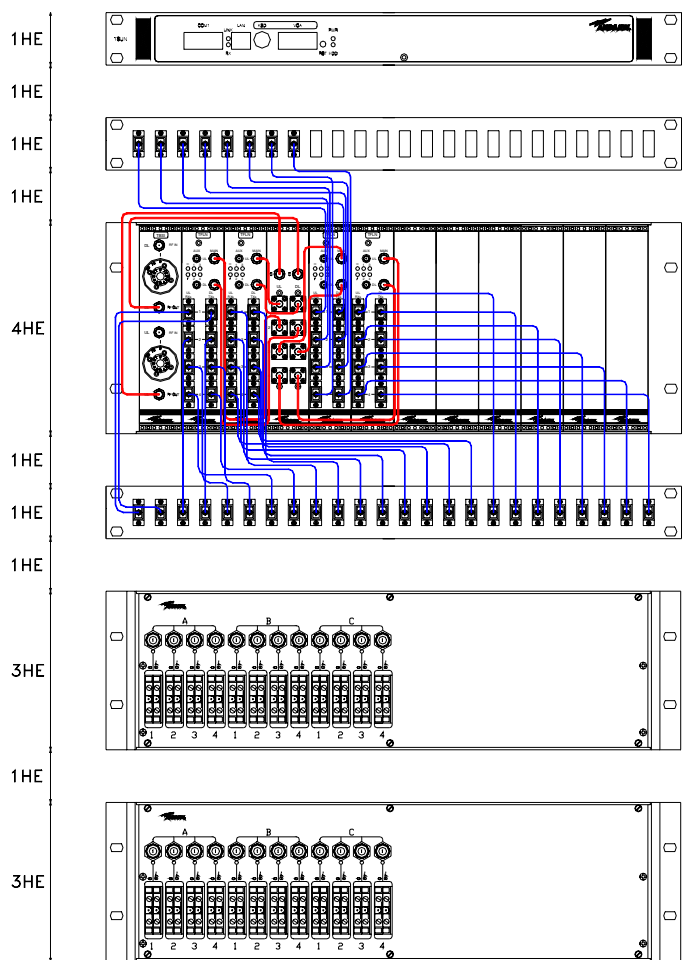
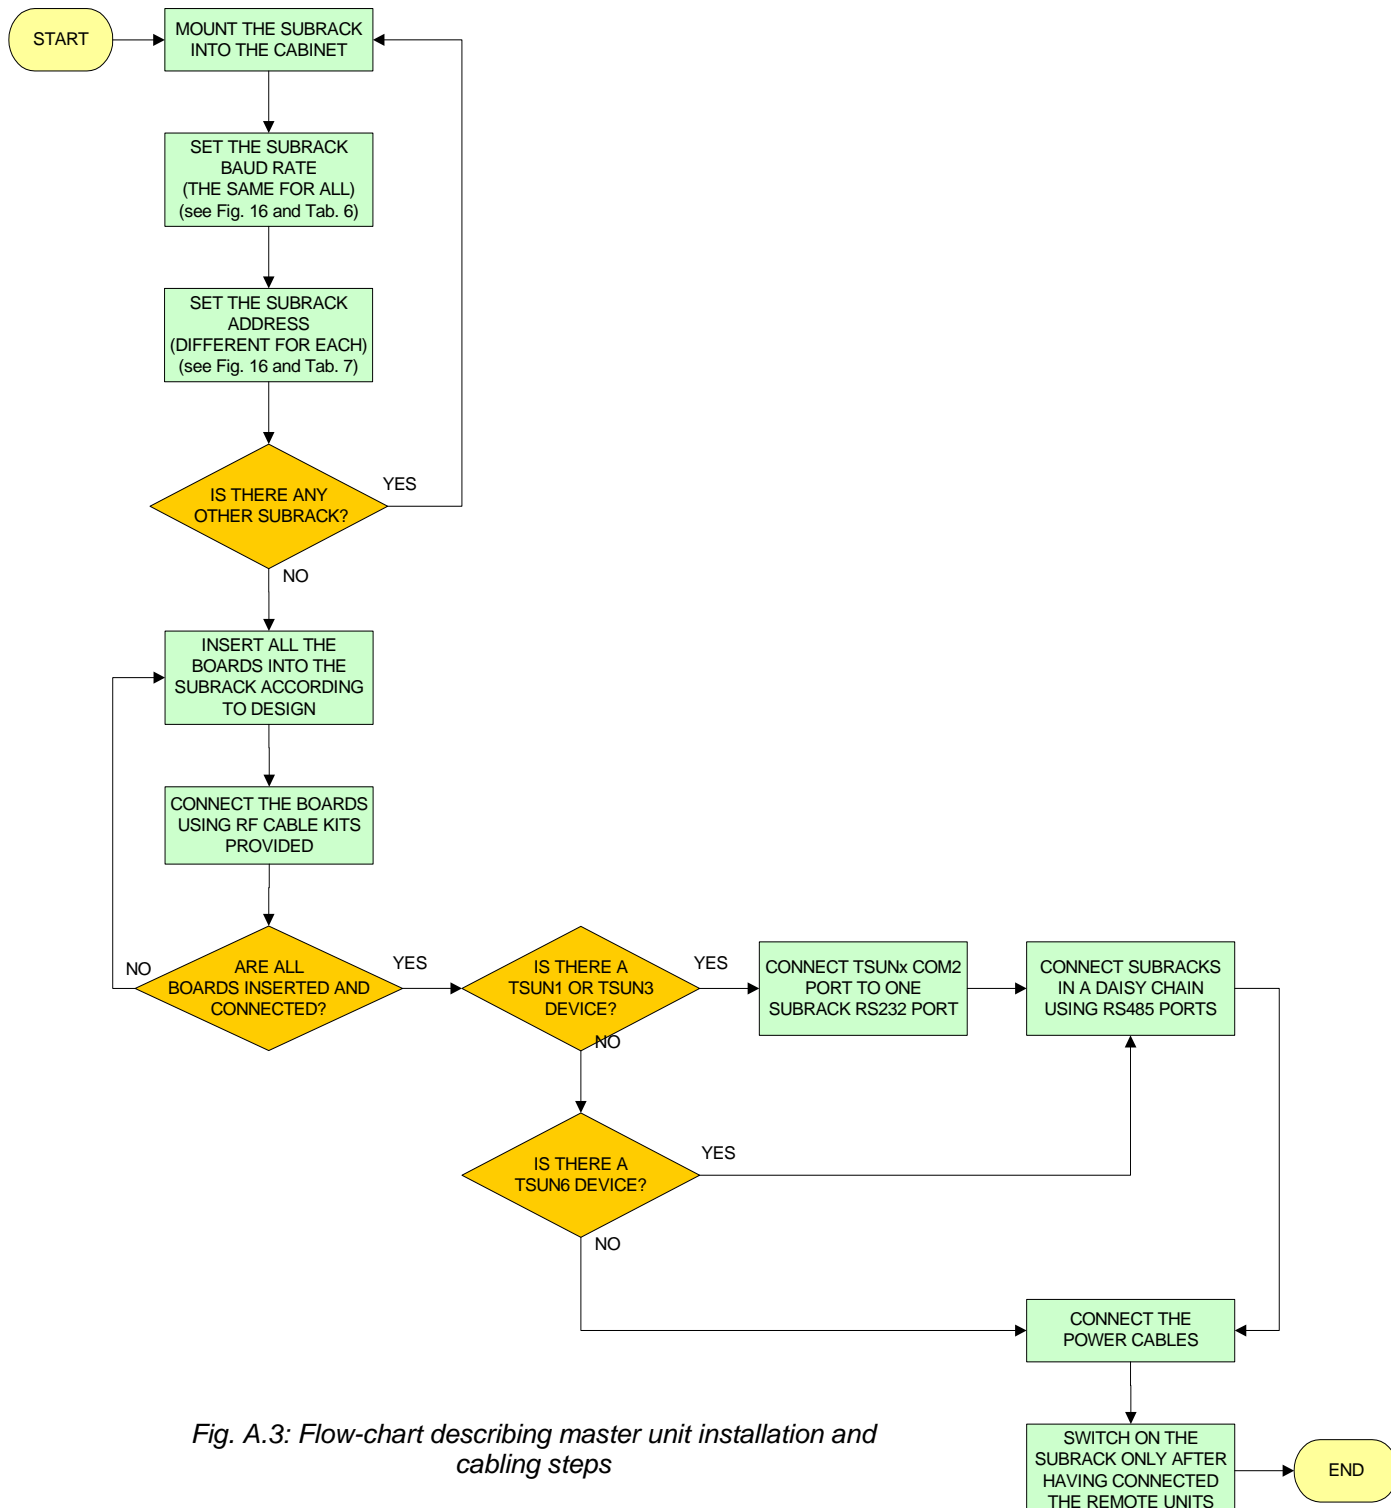

Fig. A.2: Cabinet layout for a 1 sector with 4 TFLN master optical TRXs configuration
Fig. A.3: Flow-chart describing master unit installation and cabling steps
- the master unit installation and cabling is described in more details in the flow chart in figure A.3. It takes care of the flow of actions from the sub-rack mounting on the cabinet up to the settings and connections needed in case a remote supervision has to be considered. An example of system layout at master unit side is presented in figure A.2 for a configuration consisting in 1 sector with 4 TFLN master optical TRXs.